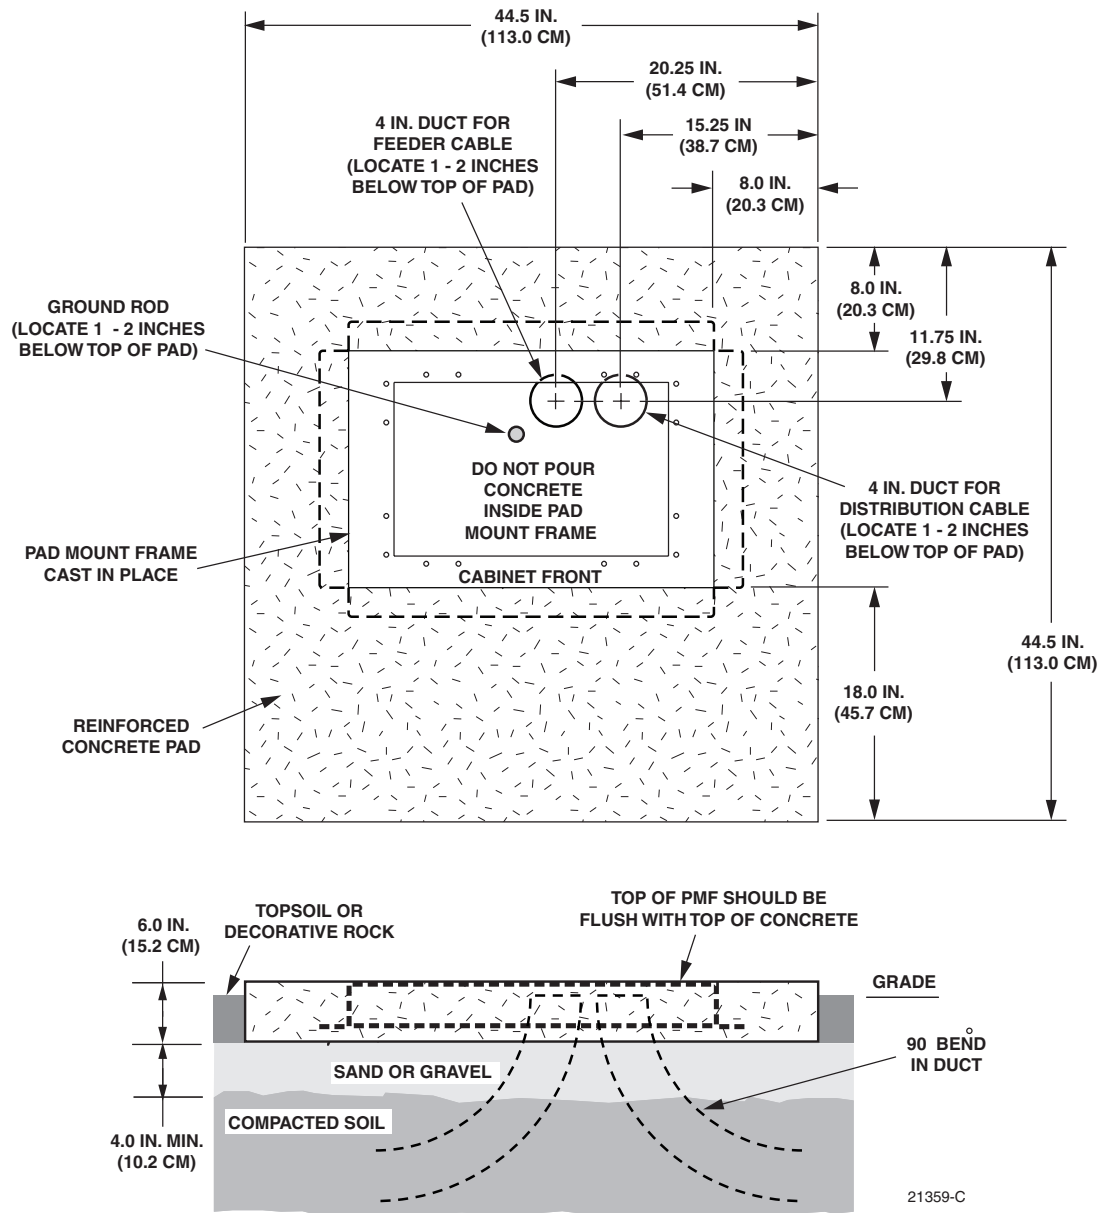

Figure 9. Constructing the Concrete Pad for the 432 Termination Cabinet With Splicing
Prepare a base for the concrete pad that meets all local code requirements. The base must have a footing of 4 to 6 inches (10.2 to 15.2 cm) of sand or gravel (per local practice) on firmly compacted soil. Refer to the construction diagram in Figure 9 for details.
2. Locate the PMF as shown in the construction diagram (see Figure 9). When installed, the top surface of the PMF must be flush and level with the top of the concrete pad.
Install a grounding system (not provided) that meets all local electrical codes. Check local codes for grounding system installation, use of clamps, wire size, and any other grounding requirements. Typically, #6 AWG copper wire is used for the ground wire. If the grounding system includes a ground rod, install the rod (see Figure 9) within the PMF opening at the indicated point. When installed, the top of the rod should be located 1 to 2 inches (2.54 to 5.08 cm) **below** the top of the finished concrete pad. Leave sufficient slack in the grounding wire to allow it to be routed into the cabinet after the cabinet is mounted on the pad.